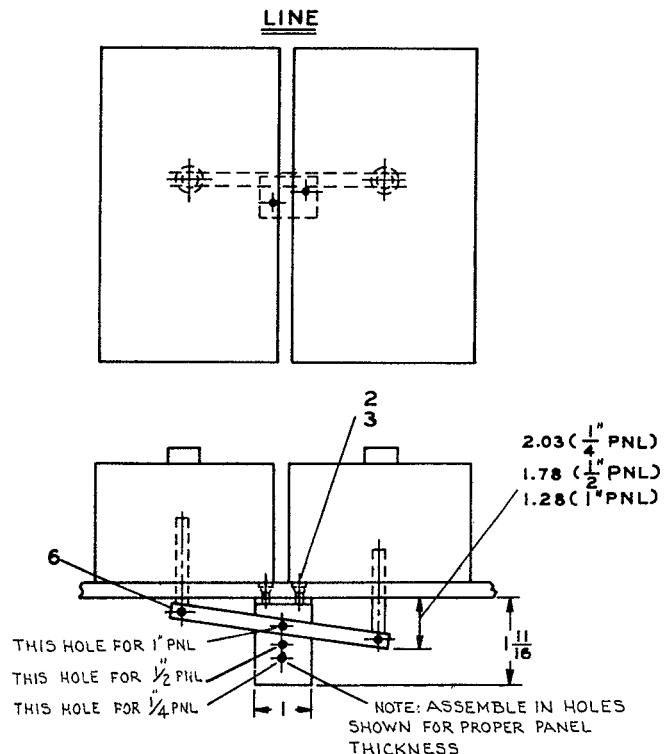

FIGURE 2
- A. Mount interlock as shown in Fig. 2 with 10-32 flat head screws.
Set one breaker in ON position. Interlock should now prevent the second breaker from being turned ON. If both breakers can be set in ON position at the same time, it is necessary to adjust the interlock for proper depth. See Fig. 2.